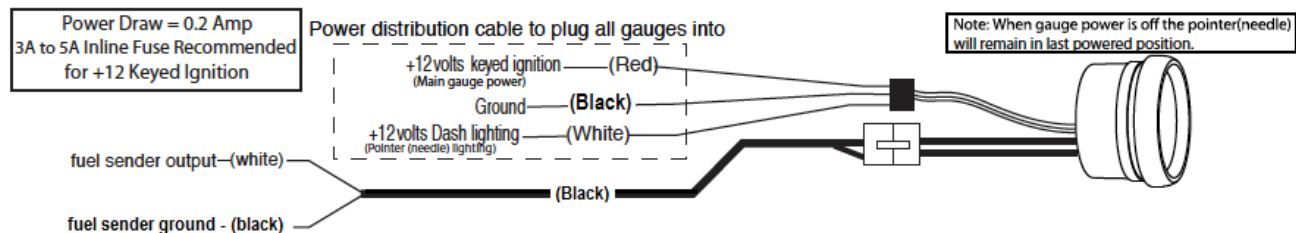

Figure 1
Figure 1 shows gauge power, ground, & lighting wiring diagram as well as sending unit wiring. If there is no fuel sender ground, connect that wire to a chassis ground.
The fuel level gauge can be manually calibrated to any existing fuel tank sender or you can select one of the calibration presets (See **Figure 1**). Factory default setting is 240 Ohms Empty and 33 Ohms Full.
2. Press and release button to toggle between available preset resistive ohm range options (**Figure 1**). The pointer will stop to each available setting with quick button presses. At the desired ohm range, press and hold the button down for 2 seconds to save the ohm range preset. The pointer will then point to 'E' and begin displaying the current fuel level.
2. Press and release button until the needle is pointing at 'F' (**Figure 1**). Hold button down for 2 seconds, then release button. Needle will now oscillate between 'E' and 'F'. You are now in Manual Calibration mode.